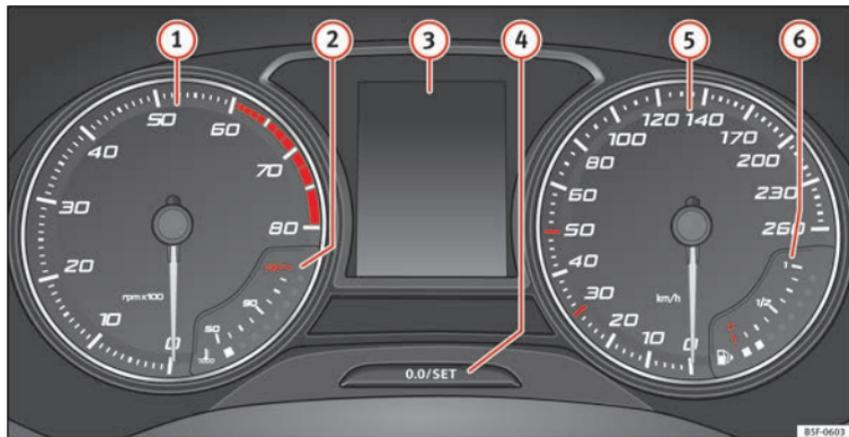

Fig. 113 Instrument panel, on dash panel
The rev counter indicates the number of engine revolutions per minute » **Fig. 113 ①**.
Never allow the rev counter needle ① » **Fig. 113** to go into the red zone on the scale for more than a very brief period, otherwise there is a risk of engine damage.
A variety of information can be viewed on the instrument panel display » **Fig. 113 ③** depending on the vehicle equipment:
- Briefly press the button » **Fig. 113 ④** to reset the trip recorder to 0.
- Keep the button ④ pressed for about 3 seconds and the previous value will be displayed.
- To set the time, keep the button **» Fig. 113 4** pressed for more than 3 seconds to select the hour or minute display.
Hold the button **» Fig. 113 4** down for more than 15 seconds to display the identifying letters of the vehicle engine (MKB). To do this, the ignition must be switched on and the engine switched off.
The coolant temperature gauge **2** » **Fig. 113** only works when the ignition is switched on. In order to avoid engine damage, please read the following notes for the different temperature ranges.